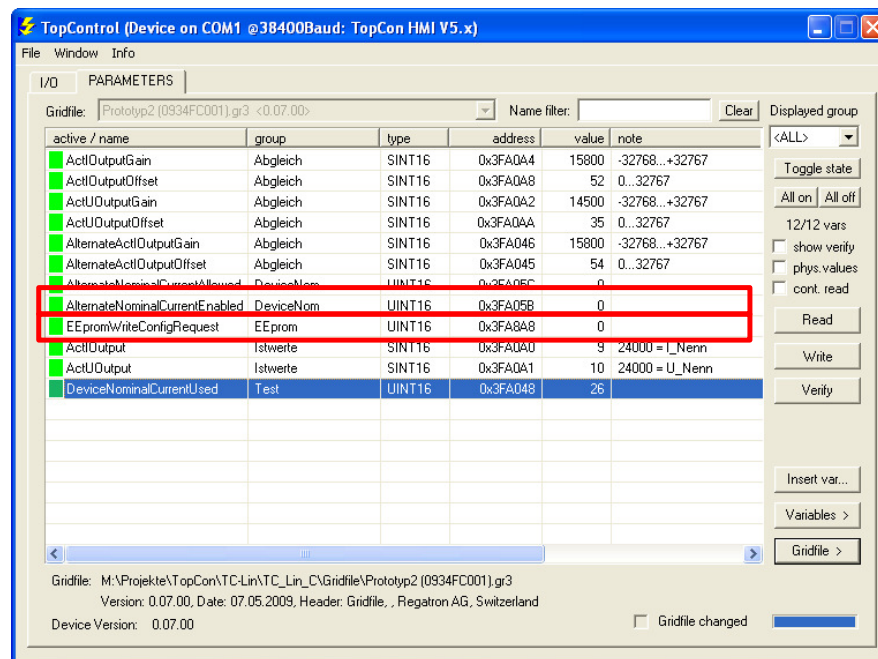

Fig. 27 Parameter list for (manual) range switching using parameters
- The parameter "DeviceNominalCurrentUsed" should now indicate the new current range actually used (see Fig. 27, last row), physical presentation unit is Amps